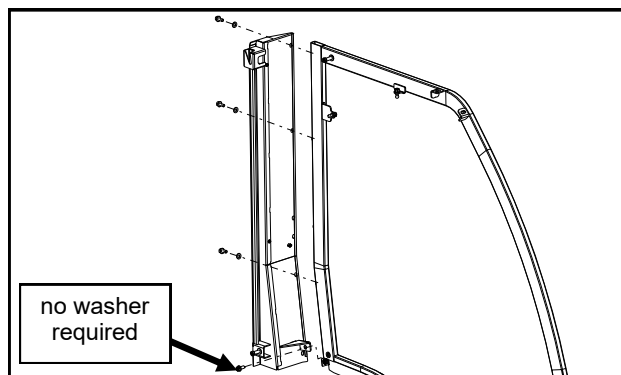

Fig. 4.2 (rear leg to sideframe - left)
4.2 Using hardware listed below, bolt the left rear leg to the left sideframe and then right rear leg to the right sideframe. See fig. 4.2.